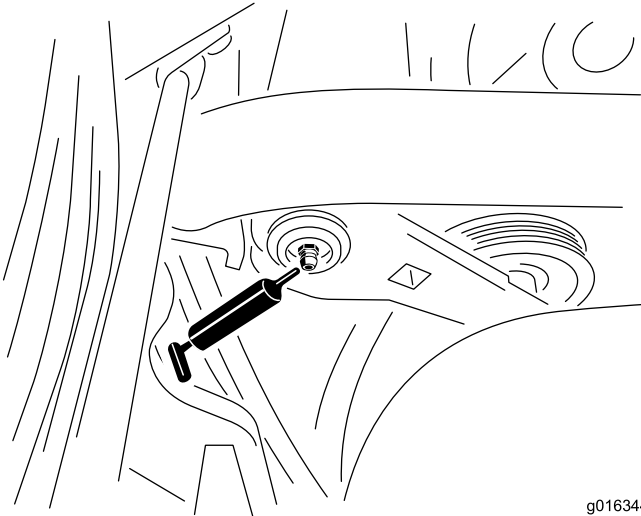

Figure 30
1. Wipe the grease fitting clean so that you do not force foreign matter into the bearing or bushing (Figure 30).